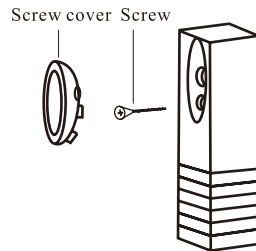

Fig.2
1. Remove the screw cover slightly (Fig.1), loosen the screw and open the front cover (fig.2)